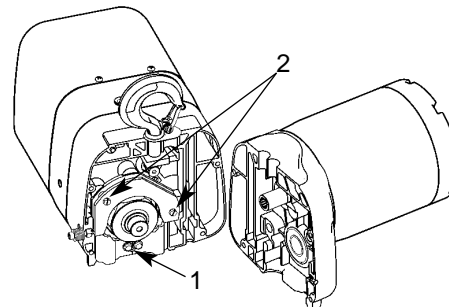

Figure 5 — Chain Replacement with No Chain in Hoist
4. Turn the two hoist sections at right angles and remove the chain guide screws and the nearest chain guide (Ref. No. 1, Figure 5).